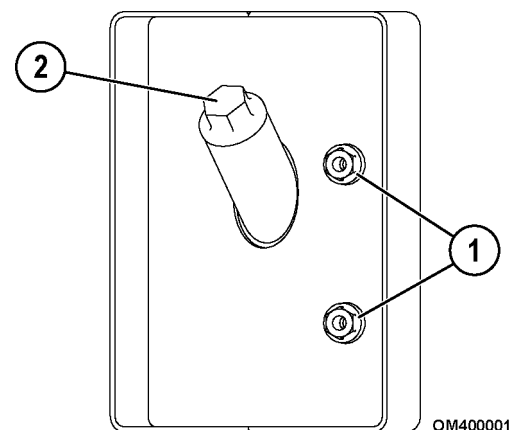

FIGURE 40-1. HYDRAULIC TANK SERVICE
There are two sight gauges (1, Figure 40-1) on the side of the hydraulic tank. With the engine stopped, key switch OFF, hydraulic system depressurized, and body down, the oil level should be visible in the center of the top sight gauge. If the oil level is not visible in the center of the top sight gauge, follow the instructions below for adding oil.
2. Pull power switch (2, Figure 40-1) to turn the system ON.
3. Push start switch (3). VALVE OPEN light (5) should illuminate and the filling process will begin.
4. When tank is full, VALVE OPEN light (5) will turn off and FULL light (4) will illuminate.
6. Press and hold start switch (3) for a couple of seconds.
8. Push power switch (2) to turn the system OFF.